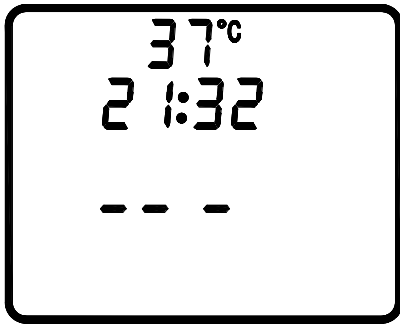
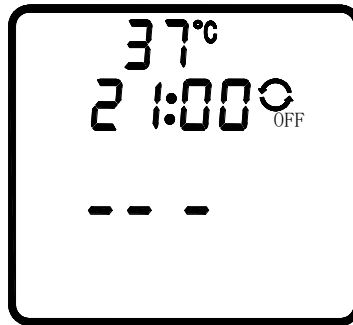

Fig 6: The circulation filtration can't be set up
Fig 7: The circulation filtration can be set up
1) When A2=OFF, the circulation filtration can't be set up (Fig. 6); When A2=ON, the user can set the circulation filtration, LCD is showing "  " at this time (Fig. 7).